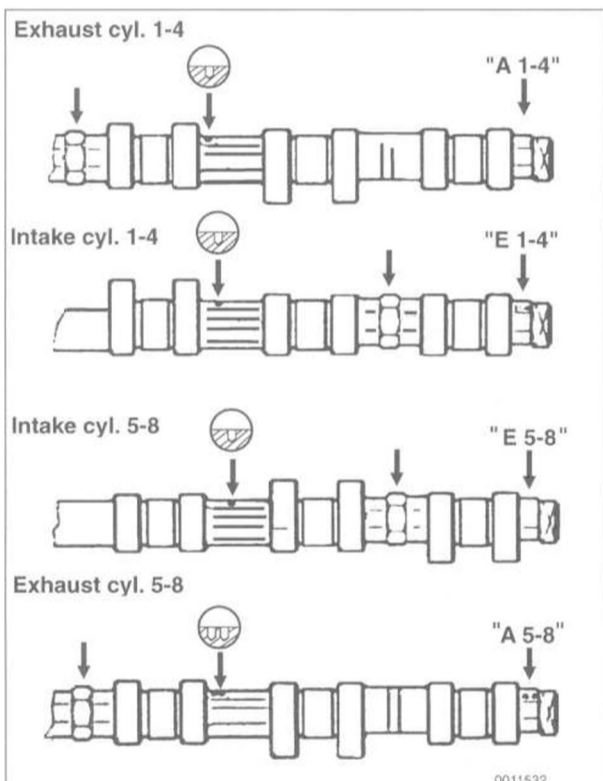

Fig. 34. Camshaft identification markings in M60 engine. Note that all markings face up with camshaft at TDC.
- Similarly, camshafts are marked with a code letter and cylinder number. For example, "E1-4" is the intake camshaft cylinders 1 through 4. See Fig. 34 and Table c for a listing of camshaft identification markings.